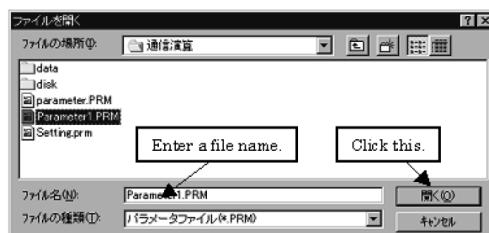

Fig. 9.4.6 Opening a File
3. When the window as shown in Fig. 9.4.6 appears, enter the name of the file you want to load, and then click [開く(O)] [Open].